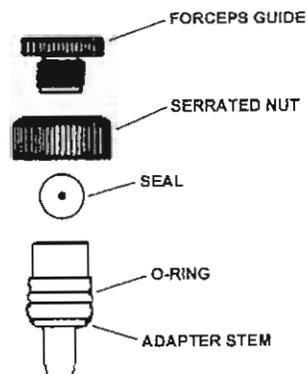

Figure 3-8. Adapter stem disassembly.
Refer to figure 3-8 for the next three steps.
- (1) Install a replacement O-ring.
- (2) Install a replacement seal onto the adapter stem with the side of the seal containing the small hole pointing upward.
- (3) Assemble the adapter stem, serrated nut, and forceps guide as illustrated in figure 3-8 and screw the forceps guide into the adapter stem.